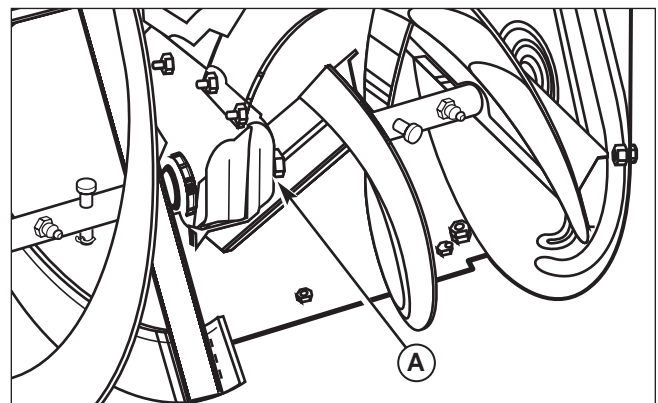

Figure 13. Auger Lubrication
2. Remove the bolt (A, Figure 13).